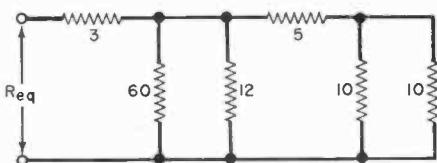

Fig. 15
**Ex. 16.** Determine the equivalent resistance of Fig. 15. **Sol.**  $60//12 = 10$  and  $10//10 = 5$ . Thus, Fig. 15 is reduced to Fig. 16A.  $5 + 5 = 10$  and  $10//10 = 5$ . From Fig. 16B,  $R_{eq} = 3 + 5 = 8$  ohms.